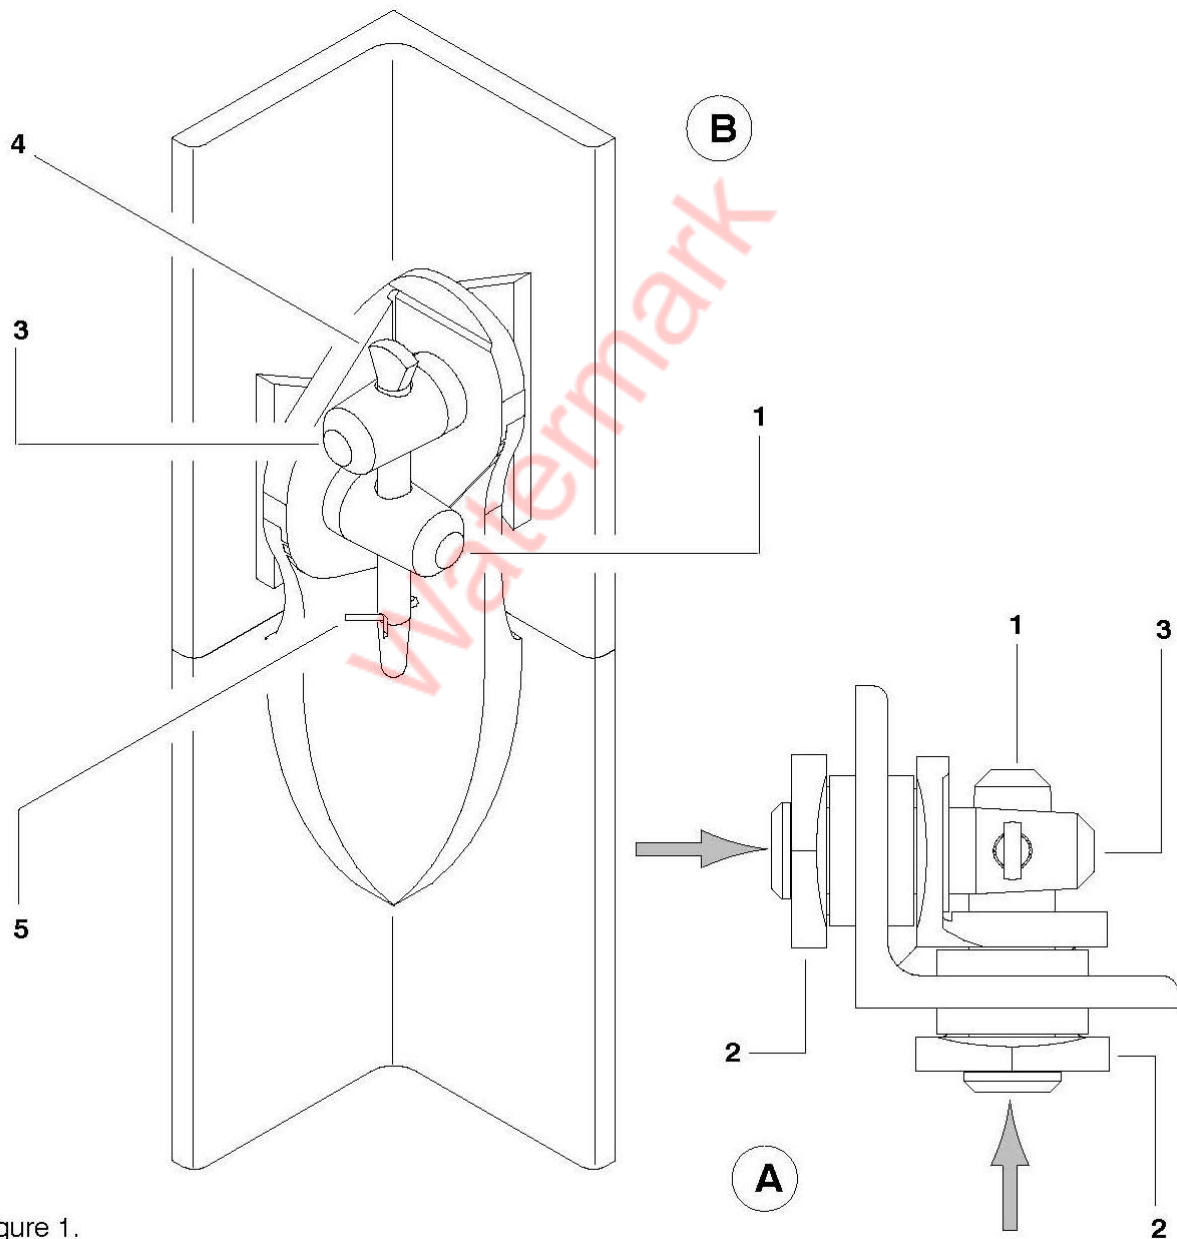

Figure 1.
- Introduce the headed shaft (1), drive in until it abuts against the fishplates (2). Proceed in the same way for the second headed shaft (3) (Detail A – Figure 1).
- The shafts (1) and (3) are locked by means of a pin (4); block the pin (4) using a split pin (5) (Detail B – Figure 1).